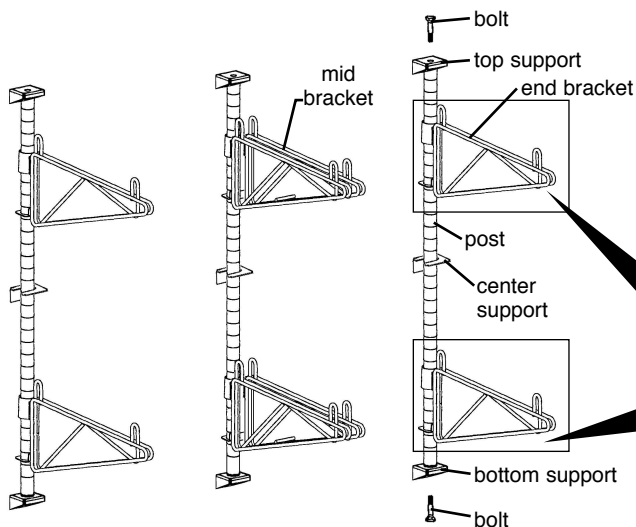

figure 5
• Install post/bracket assemblies to supports using bolts provided (see figure 5). Make sure the post(s) with mid brackets is in the middle.